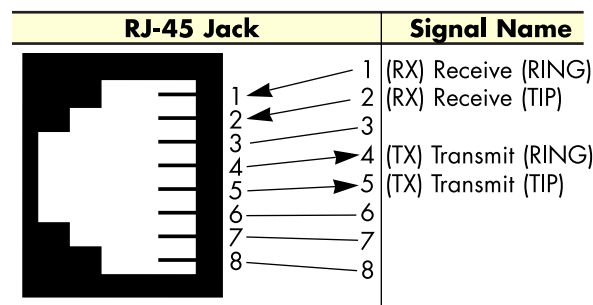

Figure 12. T1/E1/PRI RJ-48C pinout diagram
1. Refer to figure 12 for the T1/E1/PRI RJ-48C pinout diagram.